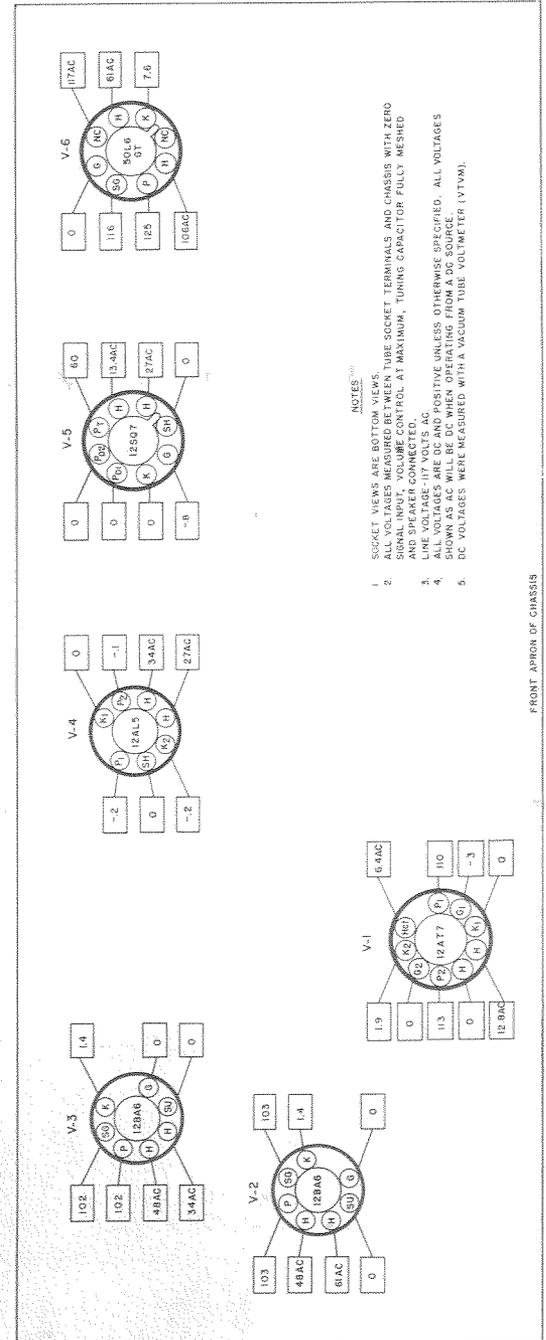

Fig. 7. Tube Socket Voltage Chart
- Connect high side of generator through a .01 mfd. capacitor to pin 7 of V-1 (see Fig. 7) and low side to chassis.
1. Connect a VTVM from pin 2 of V-4 (see Fig. 7) to the chassis. Adjust B, C, D, E and F for a maximum meter reading.
- Connect a VTVM from pin 2 of V-4 (see Fig. 7) to the chassis.